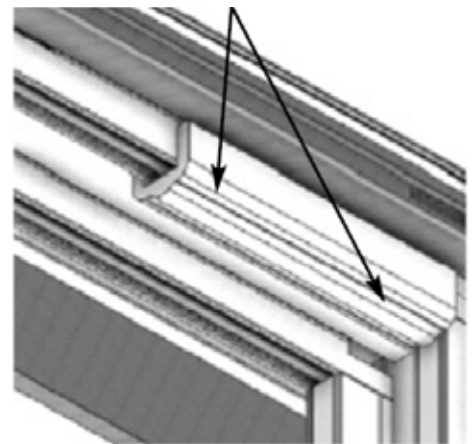

Figure 31
8. **Install** the panel bumper (Item 24) using two screws (Item 47) through the center of the bumper at 1/4" from each end (Figure 31).